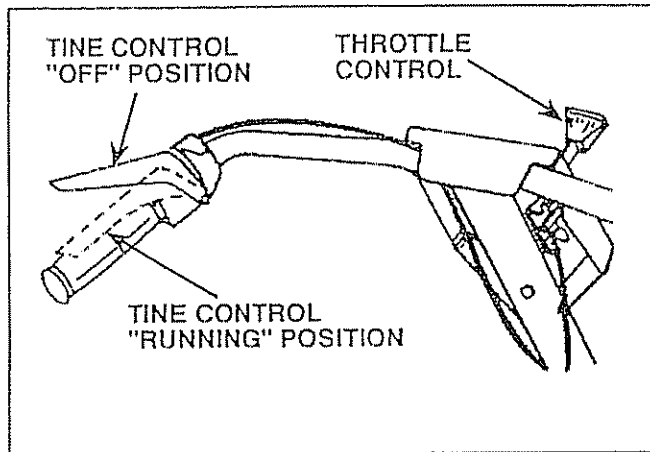

FIGURE 5
- TINE MOVEMENT BEGINS WHEN TINE CONTROL IS IN "RUNNING" POSITION (Fig. 5).